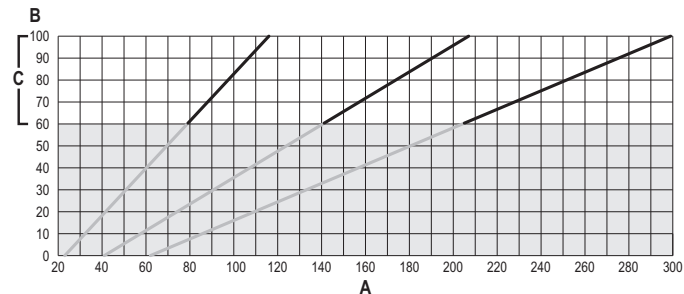

fig. 40
- Press the **heating buttons** (details 3 and 4 - fig. 1) to increase or decrease the heating capacity (min. = 00 - max. = 100). See “Heating Capacity Adjustment” diagram (fig. 40).